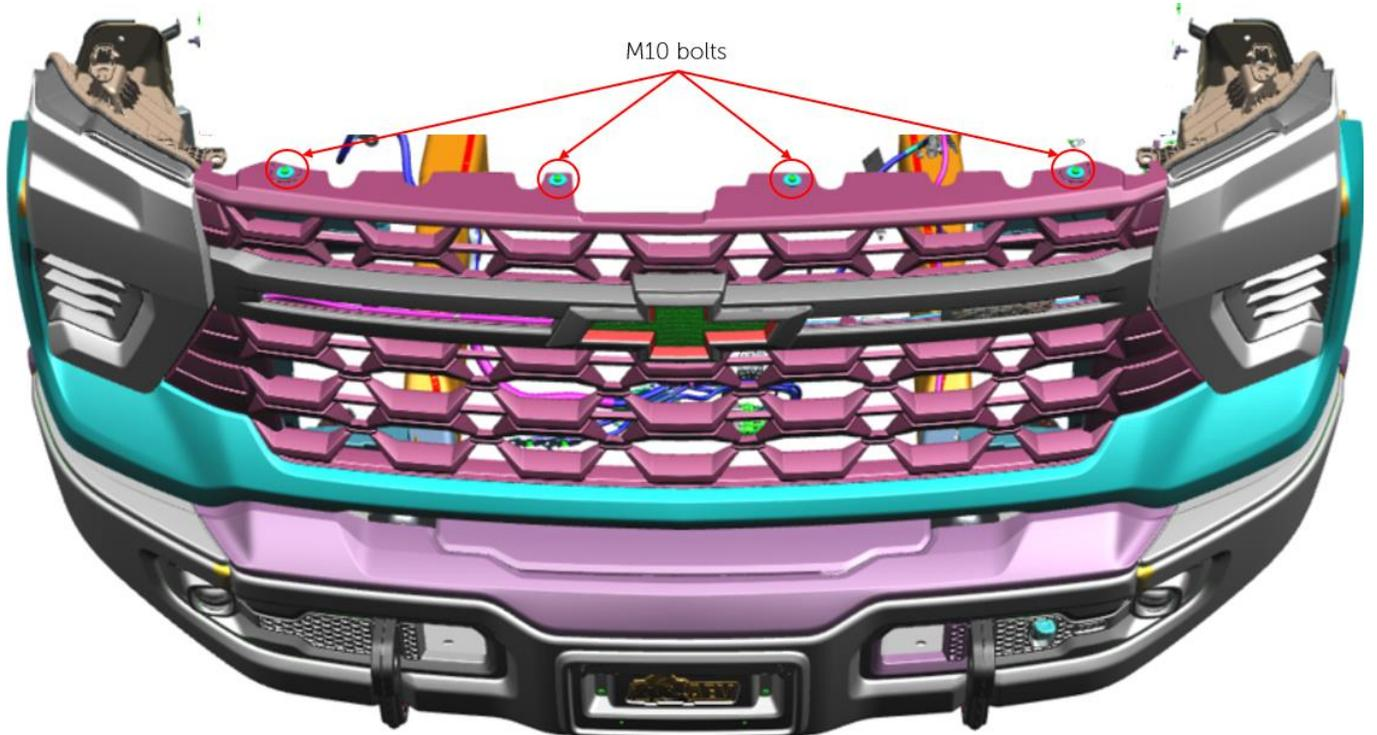

Figure 7
D. Remove bolts holding upper grille to body. – See Fig. 7